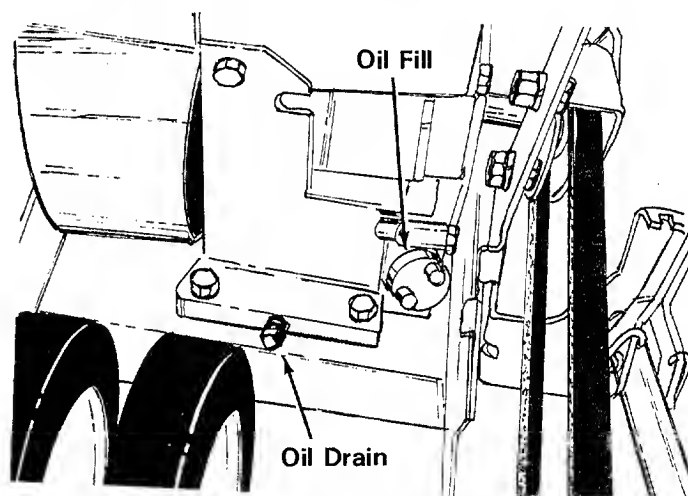

FIGURE 15
1. Fill the crankcase with oil using a high quality detergent oil classified "For Service MS." Nothing should be added to the recommended oil. **SUMMER** — Use SAE 30. **WINTER** — (Below 40°F.) Use SAE 5W-20 or SAE 10W. Place the engine level. Remove filler plug. **FILL THE OIL SUMP TO POINT OF OVERFLOW.** Pour slowly. See figure 15.
Check oil level before starting engine and after every 5 hours of operation. Add oil as necessary to keep level full to point of overflowing. Before removing plug, clean area around plug to prevent dirt from entering oil fill opening. Refer to figure 15.